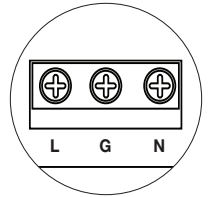

Fig. 1
1. Secure cabinet to earth ground. Connect AC power from overcurrent protective device circuit breaker (20A @ 115VAC, 60Hz, 16A @ 230VAC, 50/60Hz) to the terminals marked [L, N] on power supply board (*Fig. 1*, pg. 4). Use 14AWG or larger for all power connections (Battery, DC output, AC input). Connect ground lug  to earth or green branch wire (12AWG min.).